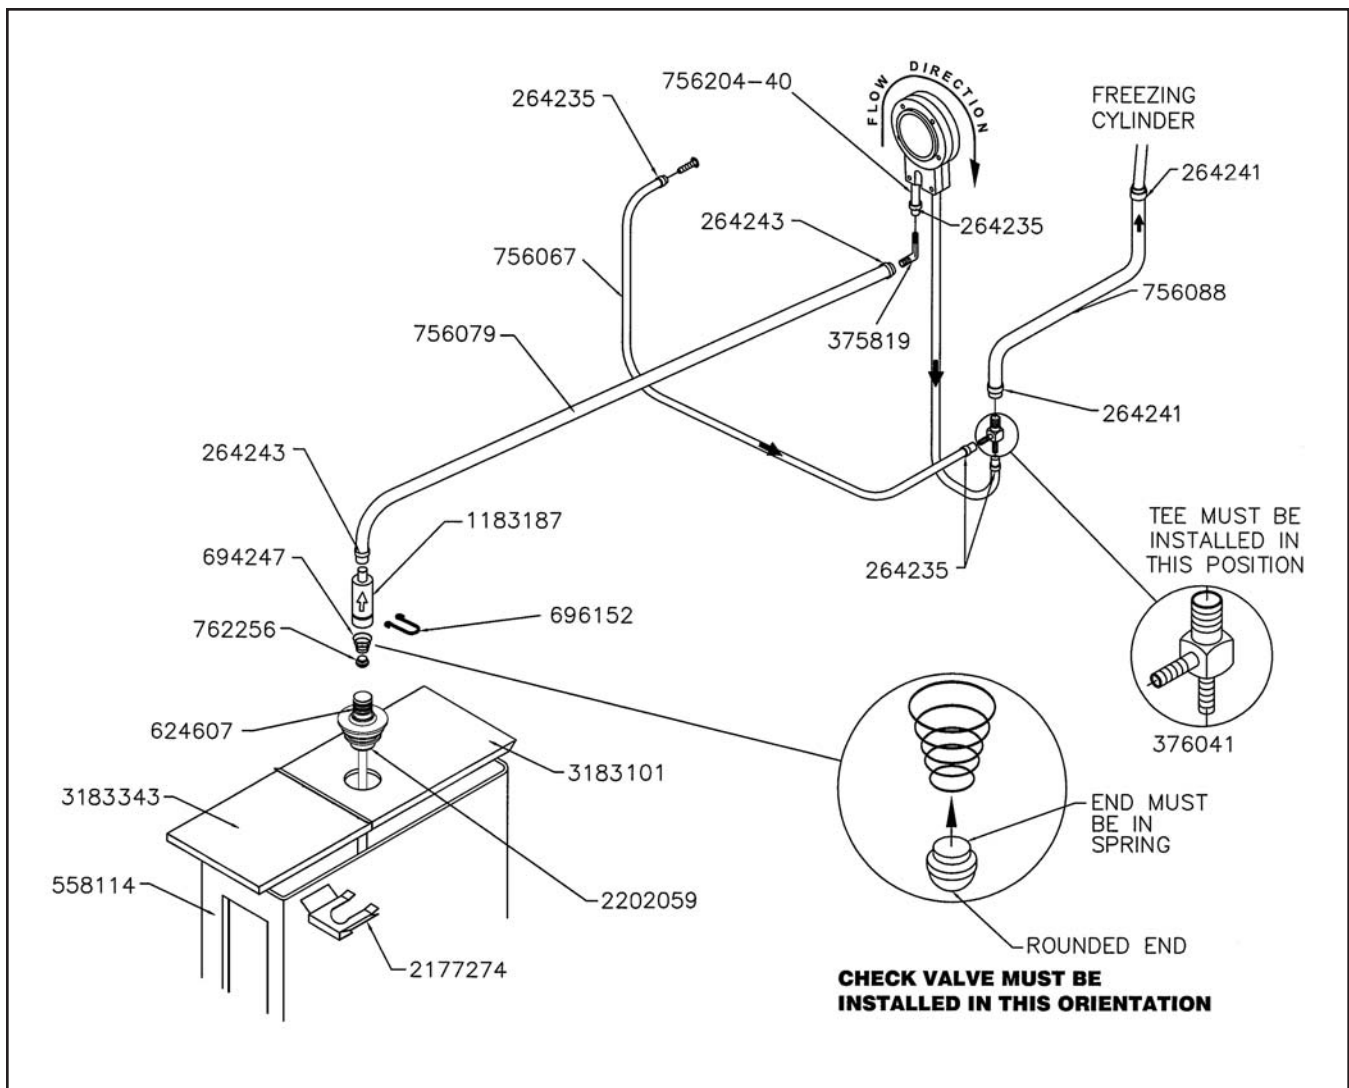

Figure 2-3 Mix Pump Connections for Standard Mix Container
10. Connect the free end of the mix pump hose to the 3-way Tee (Fig. 2-3). When all connections are complete, the 3-way Tee must be lower than the black pump housing.